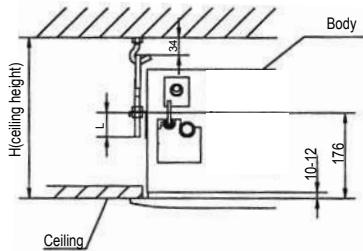

Fig. 5-5
The length could be calculated from Refer to Fig.5-5:
- Adjust the position to ensure the gaps between the body and the four sides of ceiling are even. The body's lower part should sink into the ceiling for 10~12 mm (Refer to Fig.5-5).